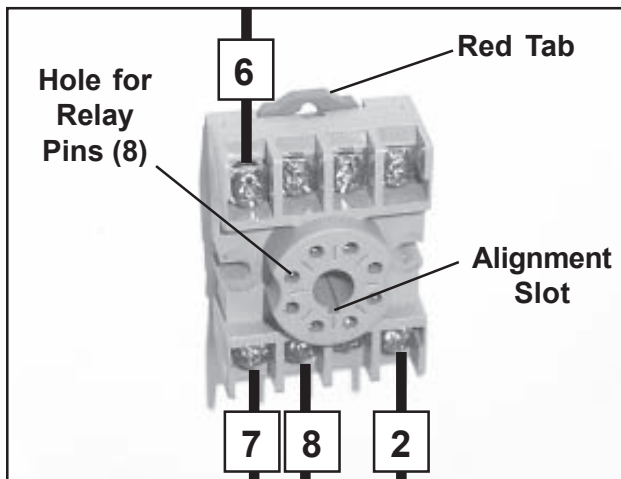

Figure 145. Octal Base
1. Mount the octal base to the partition with the two screws removed earlier. Make sure the red tab is on top (Figure 145).